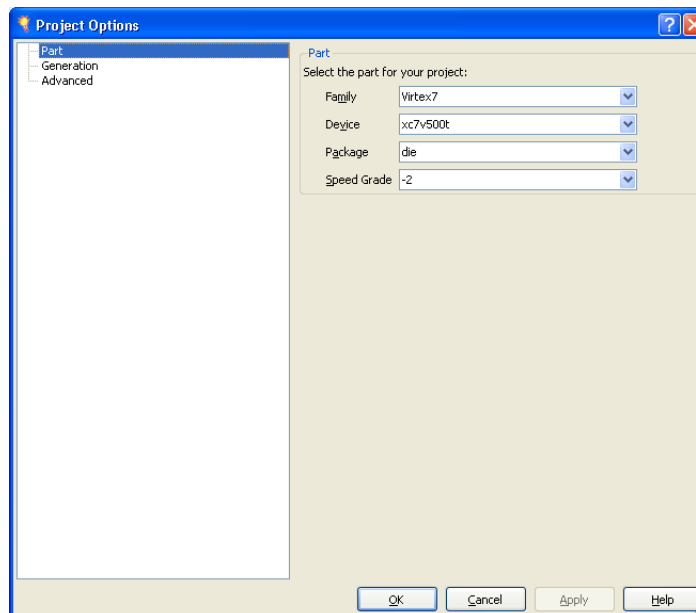

Figure 3-2: Target Architecture Setting
4. Select an appropriate package from the Package list. This example uses the XC7V500T device (see Figure 3-2).